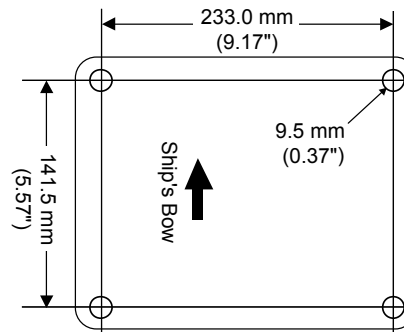

Figure 1
1. When a suitable mounting location is determined, verify that the mounting hole locations are aligned fore and aft, and then drill four 9.5 mm (0.37") mounting holes referencing Figure 1 below. (This step is not necessary if you are using a pre-drilled Garmin compatible or Raymarine® mount.)